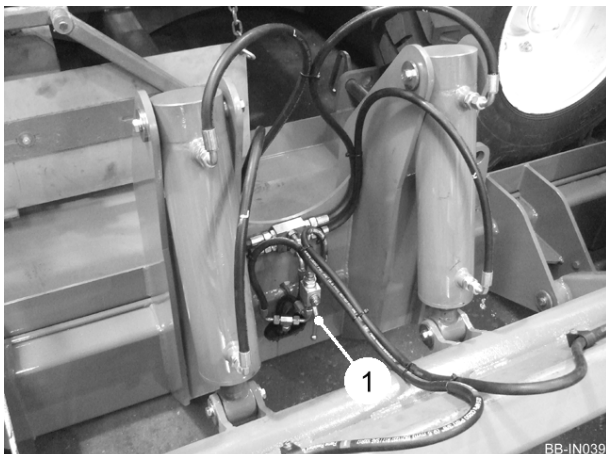

Fig 1
6. Finally, close the transport lock valve (item 1, fig 1) located between the rear wheels.
1. Open the transport lock valve (item 1, fig 1) located between the rear wheels.